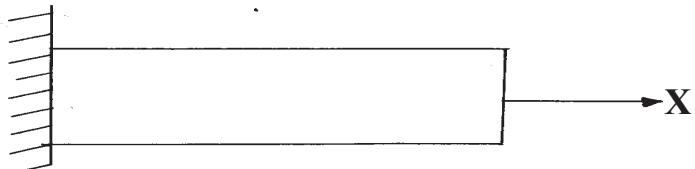

Figure 7.1
- b) For bar element shown in figure 7.1 with length L=2.5 m, E=210 GPa, $\rho = 7850 \text{ kg/m}^3$. Determine the first two natural frequencies by using lumped mass Matrix. Consider two elements. [8]